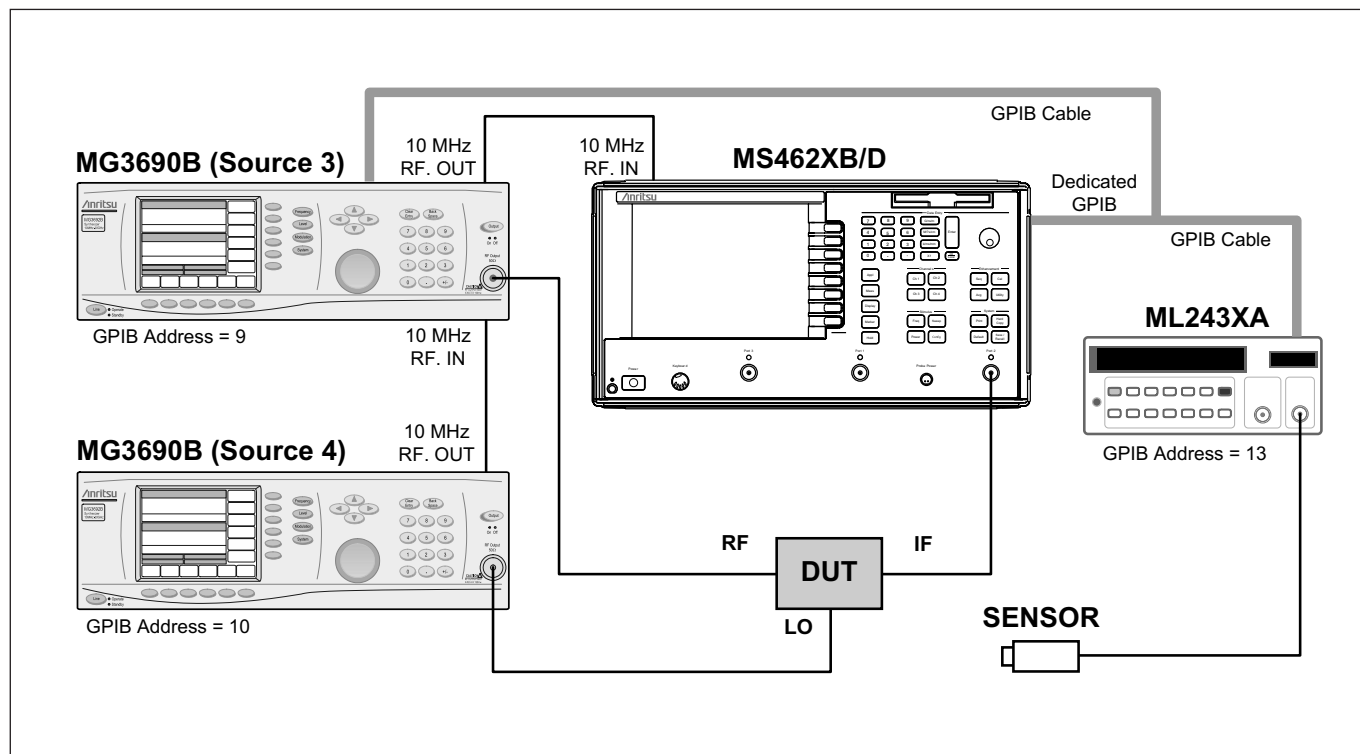

Figure 1. Test set-up
- 1) External access for the DUT LO is required. In order to maintain phase coherency between the RF signal, the LO signal, and the IF receiver (see Figure 1).
The test set up for the Insertion Loss/Gain Test will look like the diagram in Figure 1.
- Step 3. Connect the DUT as shown in Figure 1.